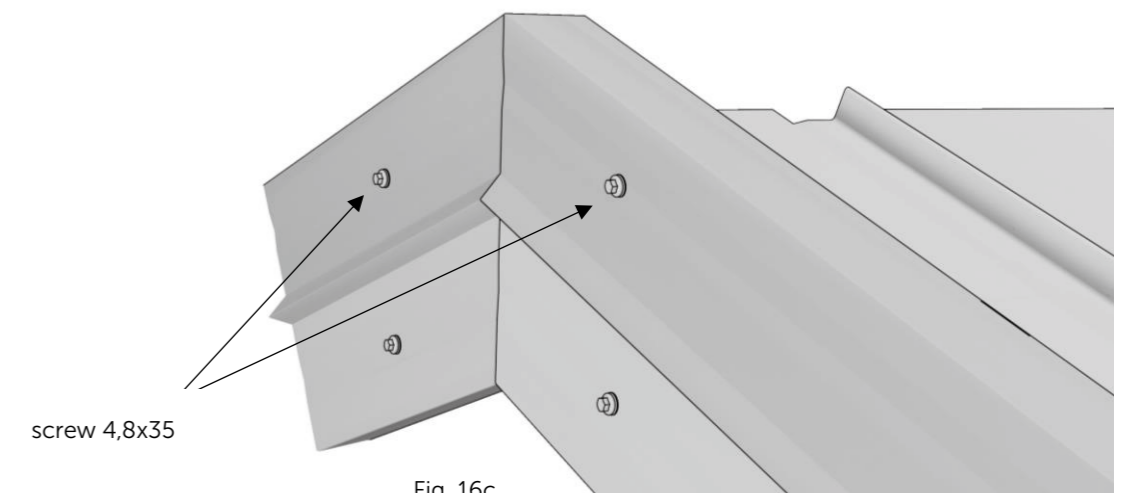

Fig. 16c
- If the last outer/overlay barge flashing is cut, screw it on with an additional 4.8x35 screw (Fig. 16c).